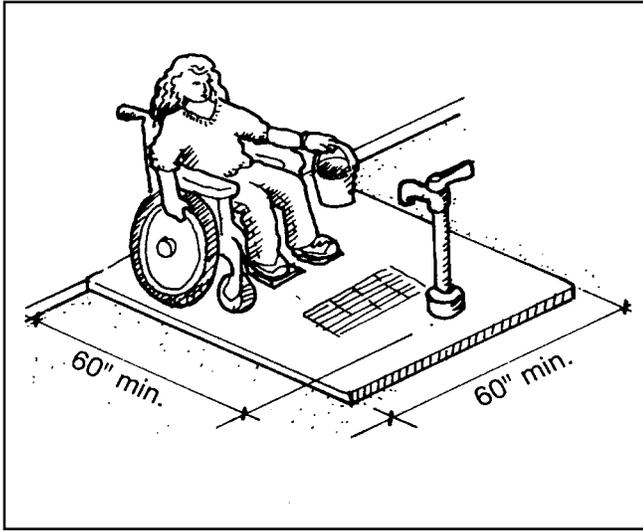
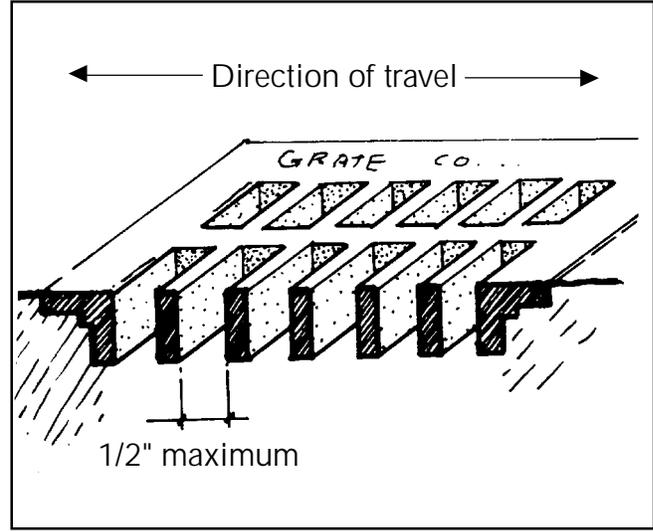

Figure 4—Spout pad configuration for accessibility.
Figure 5—Grating configuration for accessibility.
- d. Spout Pad. The pad must be a minimum 60 inches (1.5 m) by 60 inches (1.5 m) with a stable, firm, slip resistant surface with a maximum slope of three percent. Design the slope to drain water away from the user. See Figure 4. If gratings are provided, the grating space on one side shall be not greater than one-half inch (12.7 mm). If grating is elongated, the longest side shall be placed perpendicular to the dominant direction of travel as shown in figure 5.